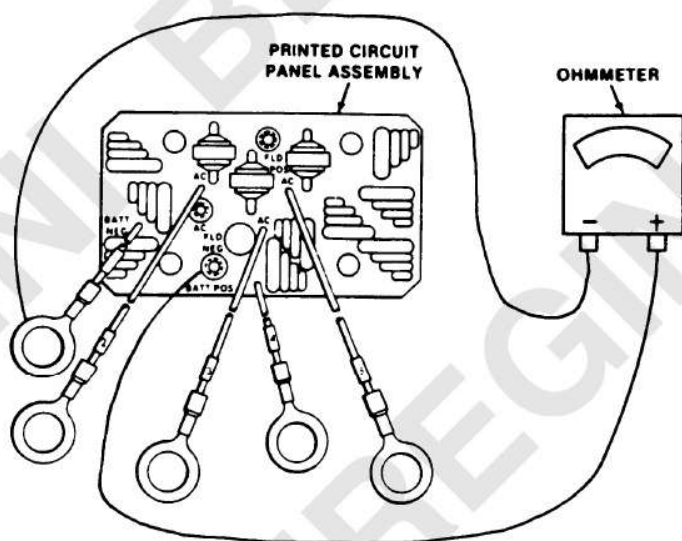

Figure 2-10. Shorted Printed Circuit Panel Assembly Capacitor Check.
- Step 12. Check for shorted or high leakage capacitors between field negative and ground according to figure 2-10.